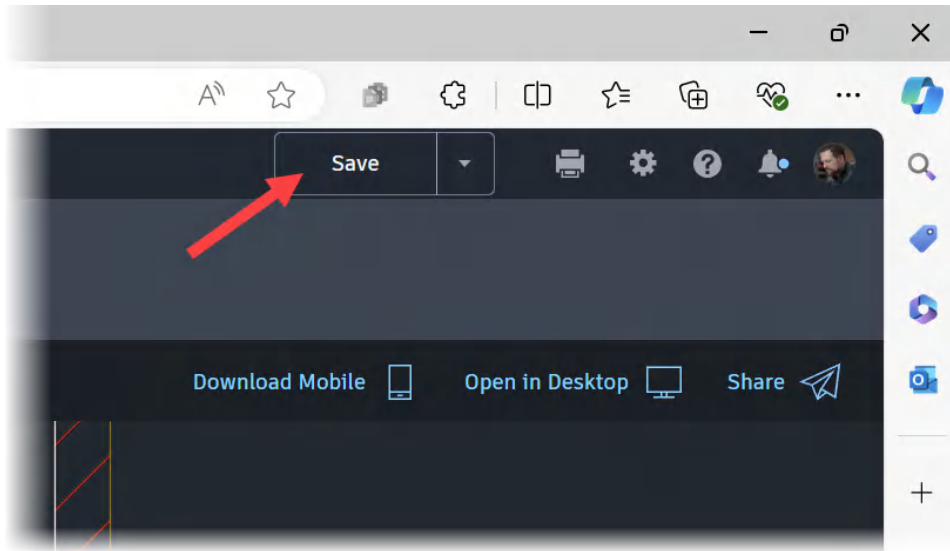

Figure 13.11: The Save button in AutoCAD Web
3. Save the drawing by clicking on **Save** (top right), as shown in *Figure 13.11*. You can also access **Save As** by clicking on the drop-down arrow next to the **Save** button. There will be a slight pause as the drawing is saved.